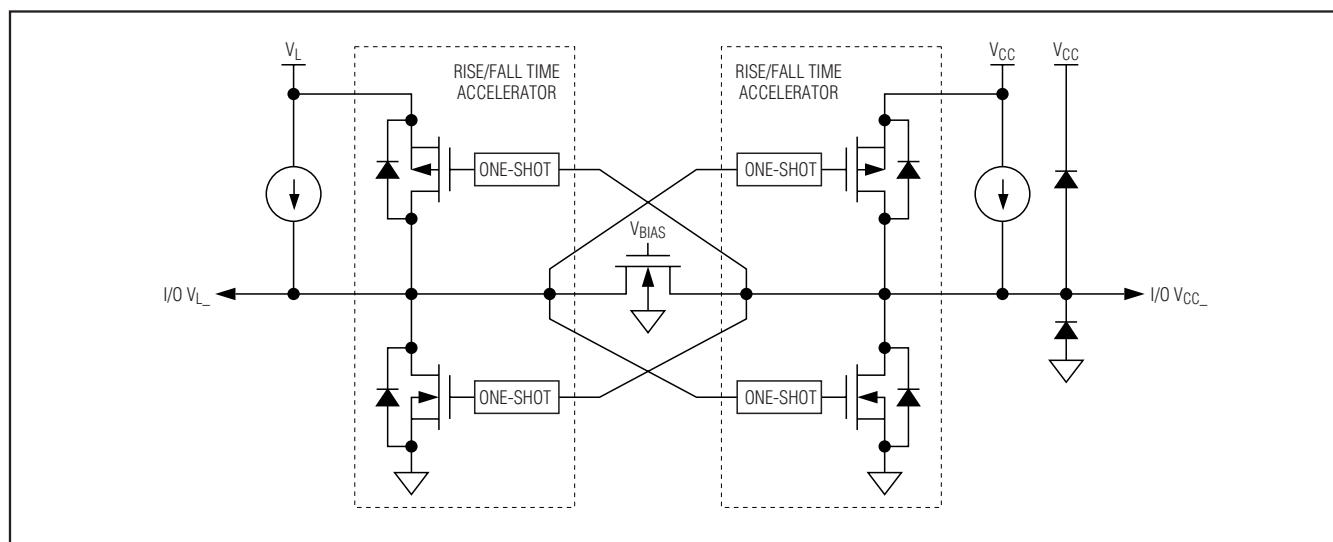

Figure 4. Simplified Functional Diagram for One I/O Line
**Note 4:** For input thresholds, see the rise/fall time accelerator circuit in Figure 4.
The MAX13055E-MAX13058E architecture is based on an nMOS pass gate and rise/fall time accelerator stages (Figure 4). The accelerators are active only when there is a rising/falling edge on a given I/O. A short pulse is then generated where the output accelerator stages become active and charges/discharges the capacitance at the I/Os. Due to its architecture, both input stages become active during the one-shot pulse. This can lead to current feeding into the external source that is driving the translator. However, this behavior helps to speed up the transition on the driven side.